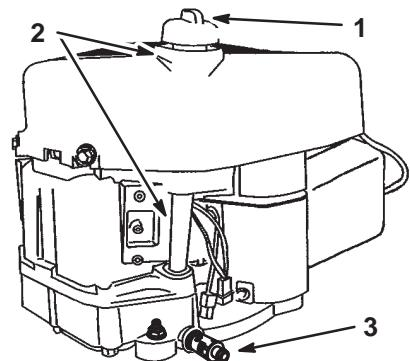

Figure 18
2. Clean around the oil dipstick (Fig. 18) so that dirt cannot fall into the fill hole and damage the engine.
10. Clean around the oil dipstick and unscrew the cap (Fig. 18).
11. Slowly pour approximately 80% of the specified oil into the filler tube (Fig. 18). Refer to Servicing the Engine Oil, page 22.